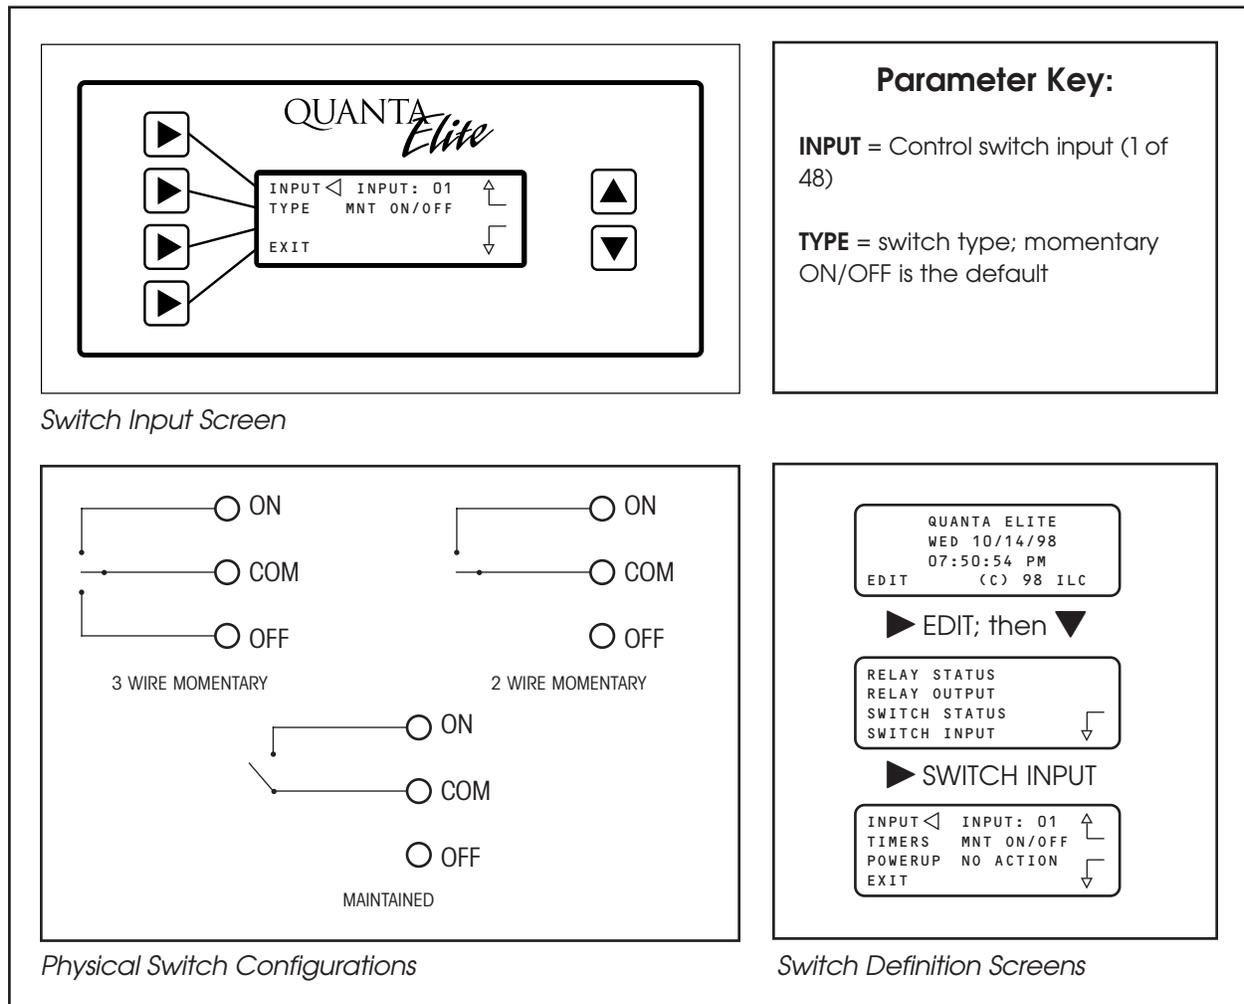

Figure 3.5
2. Press ► SWITCH INPUT. (See Figure 3.5.)